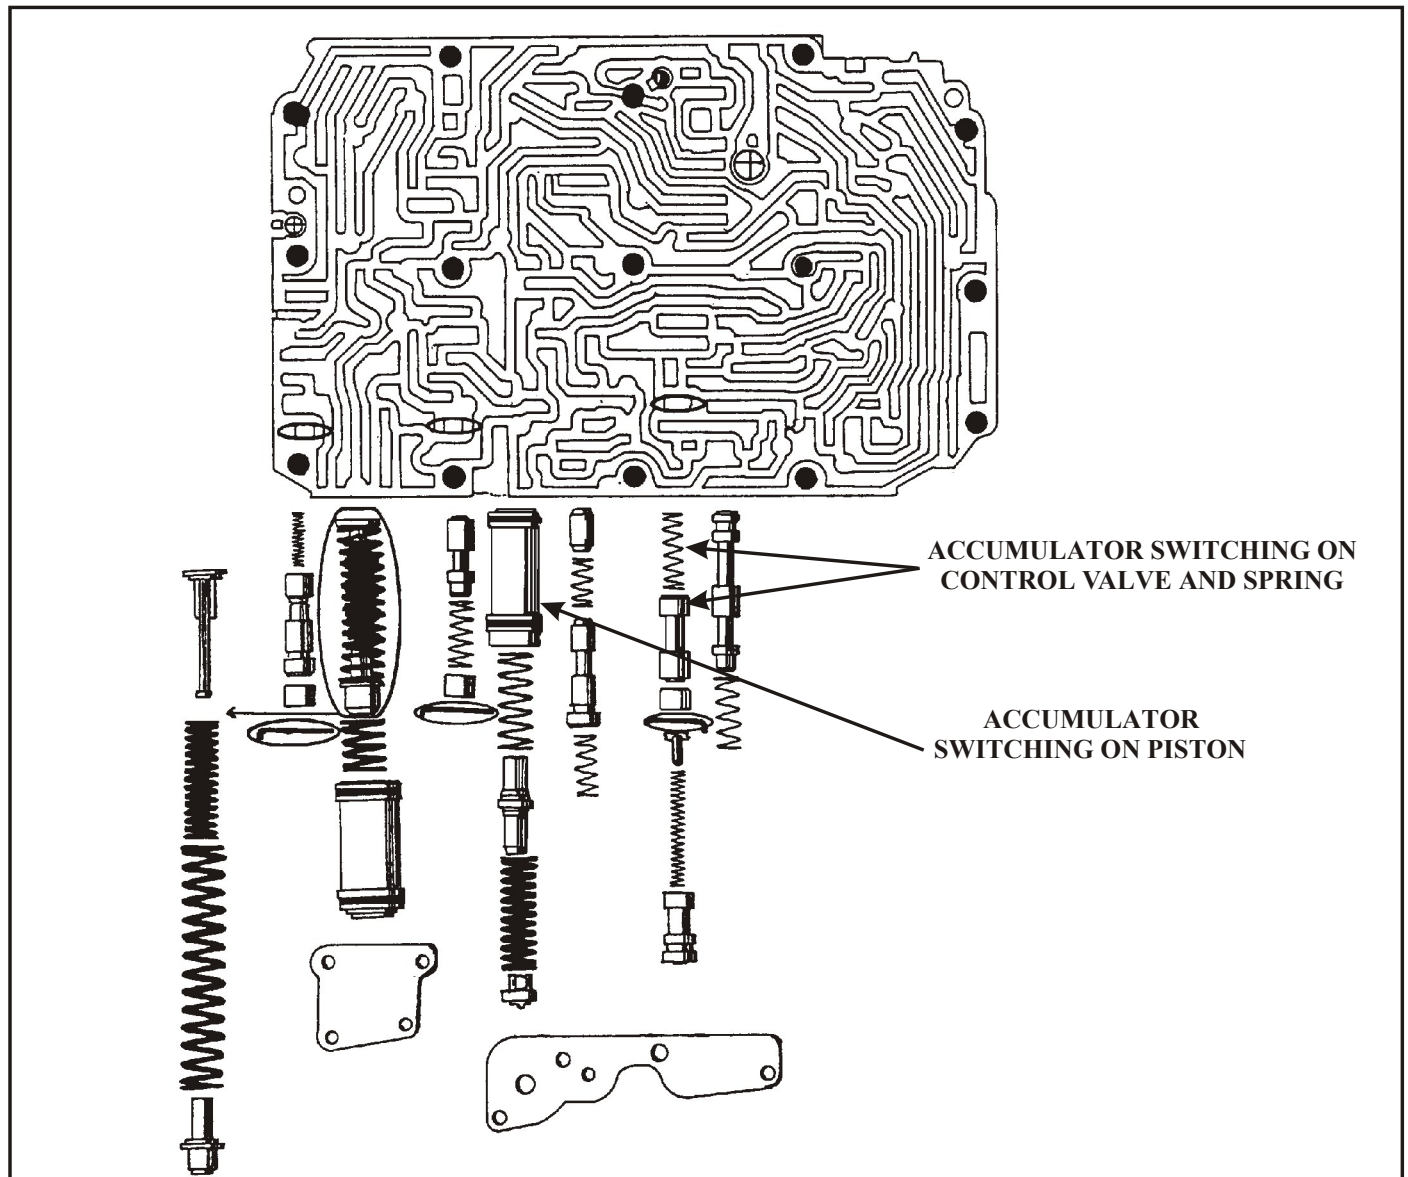

Figure 1
- c. The gasket on the large intermediate plate shows severe swelling or a green slimy coating (upper right arrow in Figure 1).
- d. The intermediate plate shows signs of corrosion under the gasket (lower left arrow in Figure 1).
CAUSE: The cause may be, a stuck or sticking *Accumulator Switching On Control Valve*, a collapsed or broken *Accumulator Switching On Control Valve Spring*, a missing, cut, or leaking seal ring on the accumulator piston, or a cracked *Accumulator Switching On Piston* (See Figure 1).
CORRECTION: Remove and disassemble the valve body. Inspect and replace as necessary, the parts and concerns listed above, as shown in Figure 1.